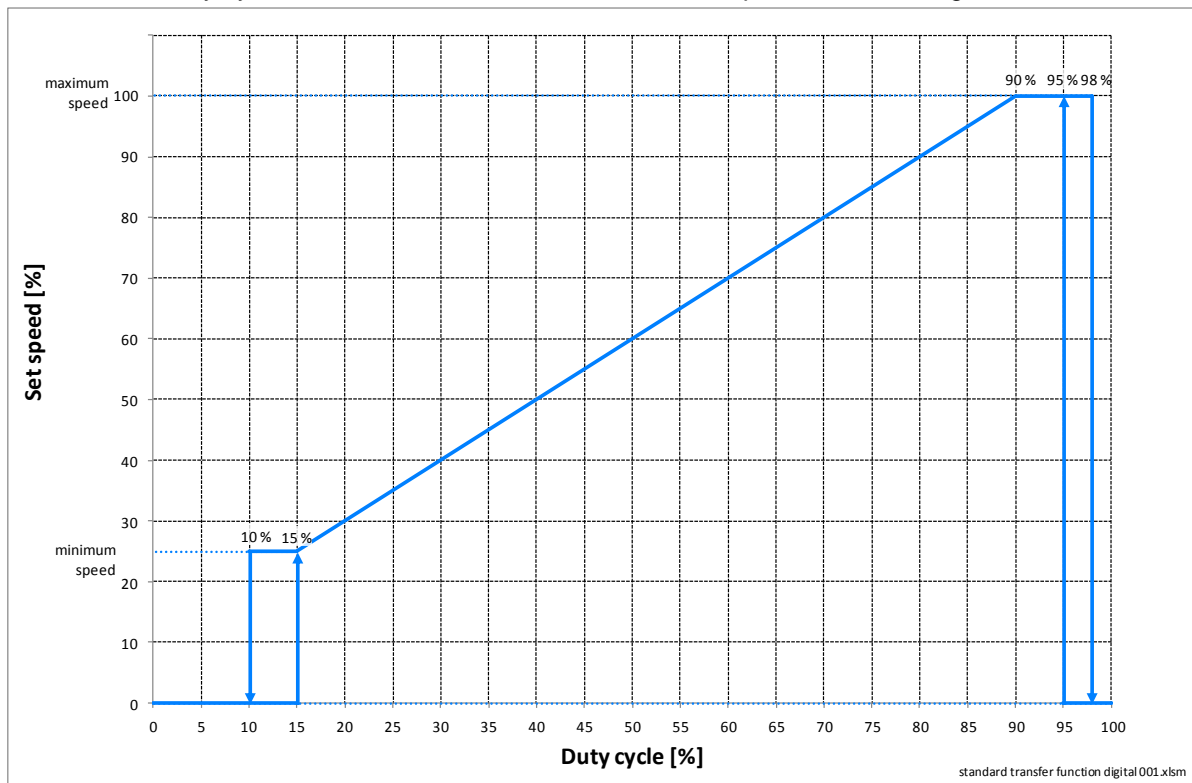

Figure 11: Digital control: transfer function PWM input
The Drive mode (see Table 9) changes accordingly to the control input duty cycle on pin PWM* / E* (see Figure 11) and the voltage level on analog input A (see Figure 12).
- if the PWM duty cycle on pin PWM* / E* has a value where the Drive is asked to run (see Figure 11 and chapter 9.4) and the PWM duty cycle value is valid according to the chapter 9.3 or
The speed is set according to Figure 11: Digital control: transfer function PWM input and chapter 9.4.
The speed is set according to the Digital control: transfer function PWM input (see Figure 11).
Based on this duty cycle definition the transfer function PWM input is shown in Figure 11.